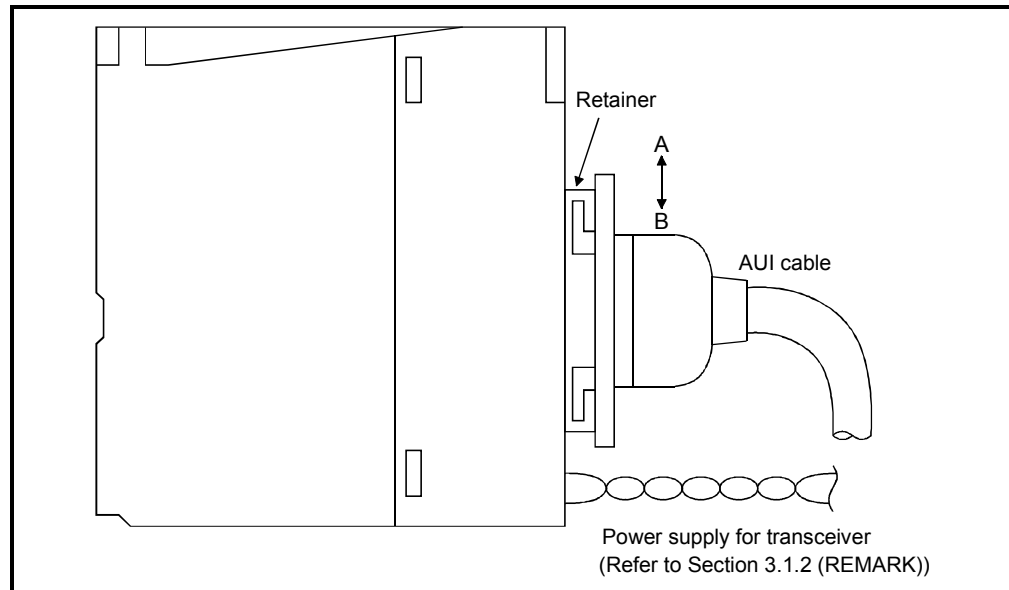

Fig. 5.1 Diagram of AUI cable connection
- (Step 1) Slide the retainer in the direction of B shown in Fig. 5.1
- (Step 3) Slide the retainer in the direction of A shown in Fig. 5.1